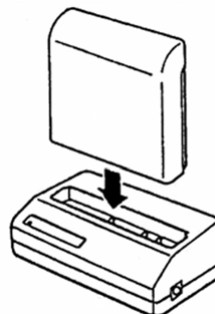

Figure 3-4e
- 5 Insert battery pack into the charger base (Figure 3-4e).